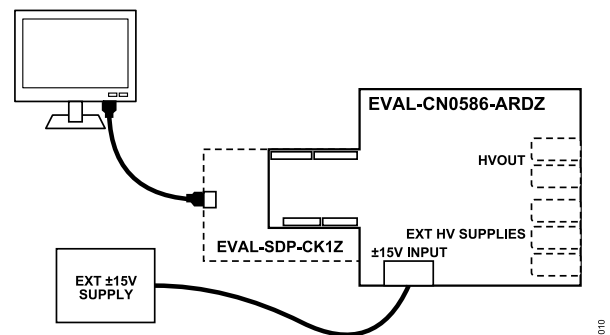

Figure 10. Hardware Setup
2. Connect the external +/-15V power supplies to P1, as shown in Figure 10. Make sure that the board cover is attached for safety and then turn on the power supplies.